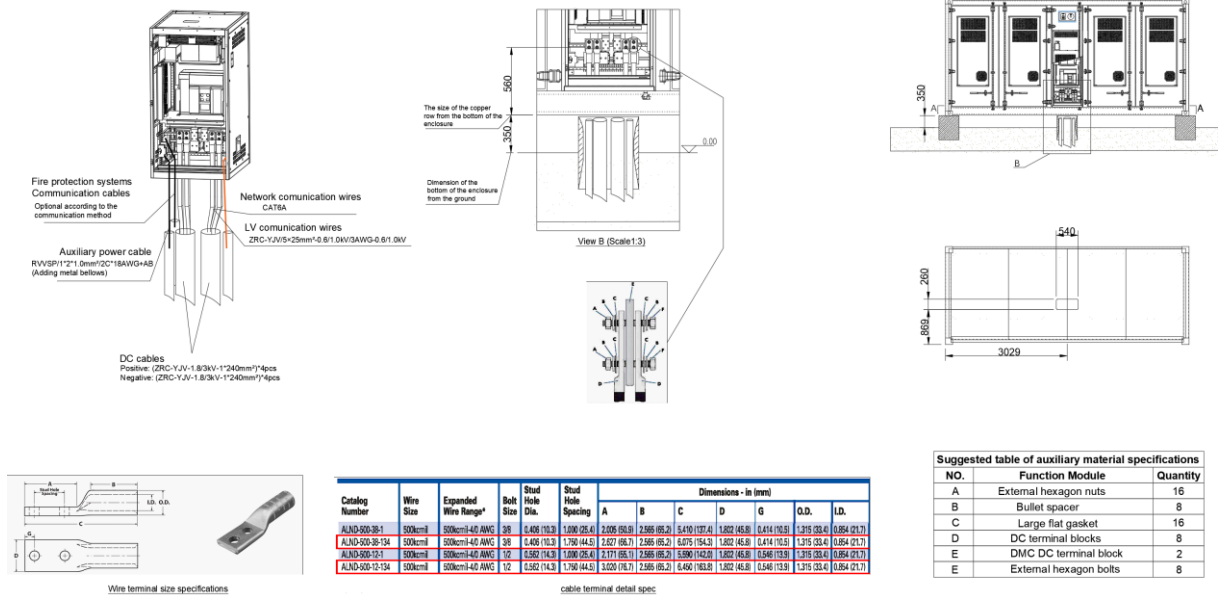

Figure 10: Foundation Conduit Stub-ups
- ✓ Step 5: Remove from flatbed and set on foundation were indicated by location markings. Take special care to ensure conduit stubs enter the SolBank in the correct location. See Figure 10. Conduits will penetrate special glands in the SolBank which prevent ingress of animals, insects and external debris. Shim as required until level.